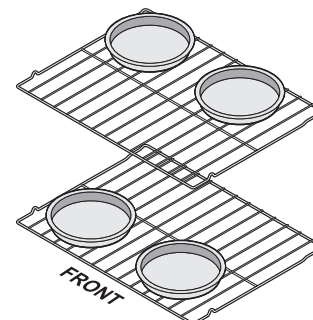

Figure 15: Pan spacing recommendations
- When baking using two oven racks, position cookware as shown in Figure 15. Allow at least 2 inches (5 cm) of space between cookware for proper air circulation.